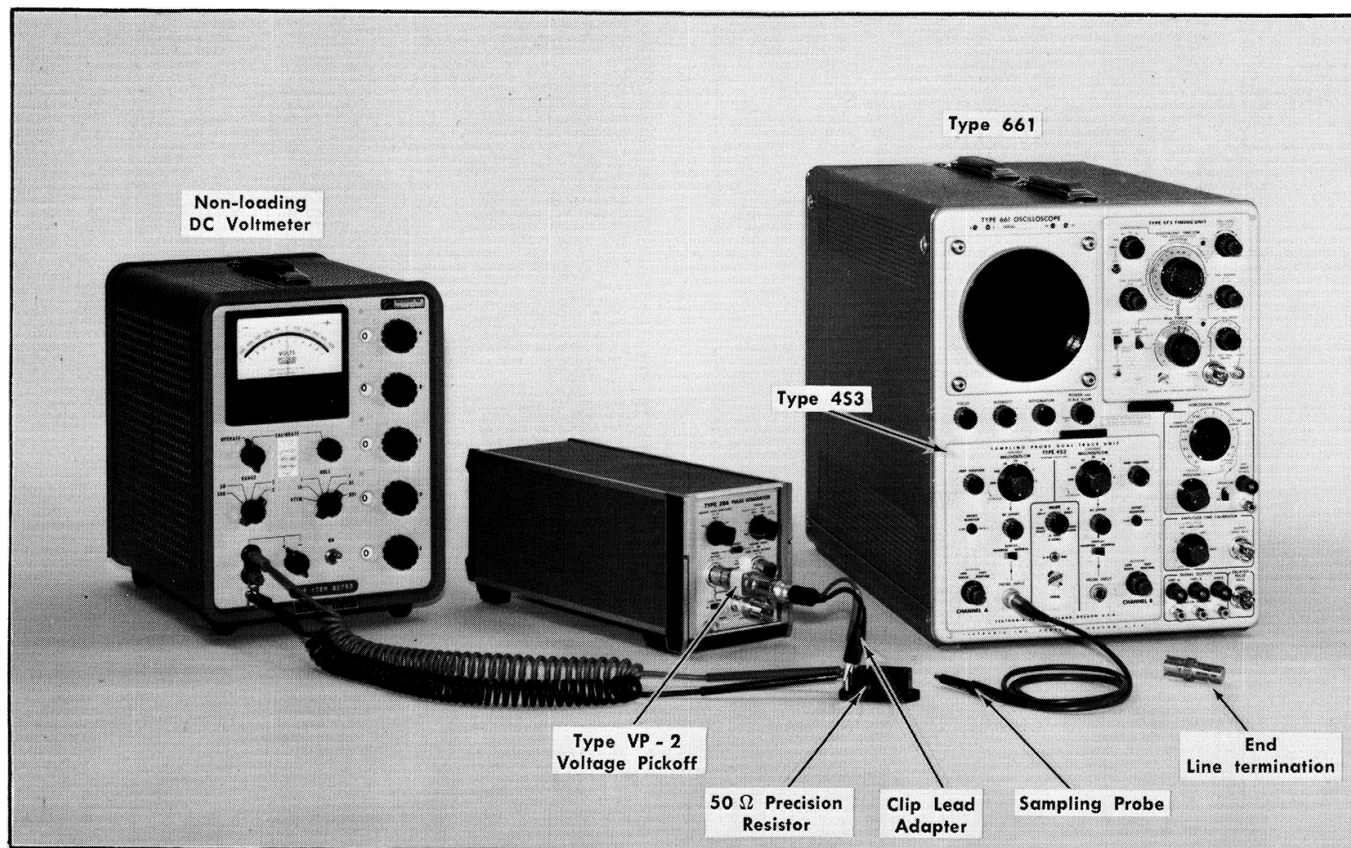
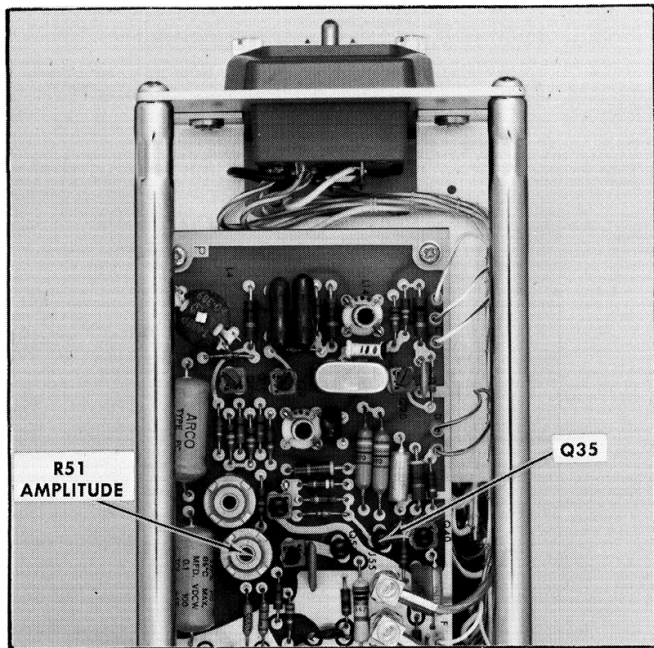

Fig. 6-6. Initial setup of test equipment used in step 4.
Fig. 6-7. Locations of adjustments in step 4.
4. Adjust Square Wave Amplitude, R51 ①
a. Use equipment setup shown in Fig. 6-6.
b. Connect the 50 Ω resistor, (item 21 on equipment required list) by a BNC clip lead adapter through a BNC to GR adapter and a voltage pickoff VP-2 to the SQUARE WAVE OR SINE WAVE OUTPUT connector on the Type 284. Connect the precision voltmeter (item 2 in equipment list) across the resistor. If you use a precision resistor with a single coaxial connector a Tee connector can be used.
c. Remove Q35 from its socket (see Fig. 6-7 for location).